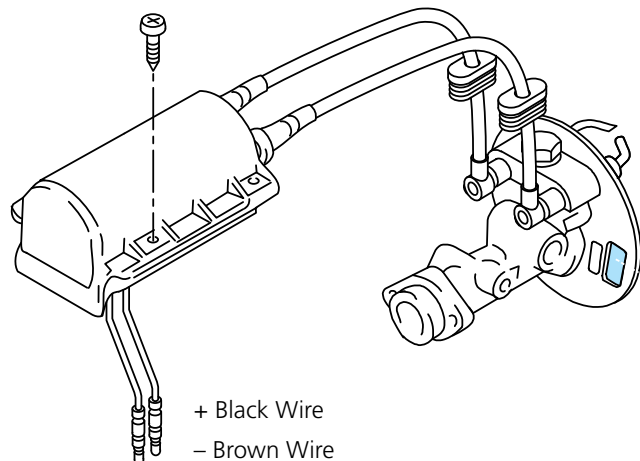

Figure 45: Ignition Coil Replacement
3. Remove the four screws securing the ignition coil to the protection cap (see Fig. 45).